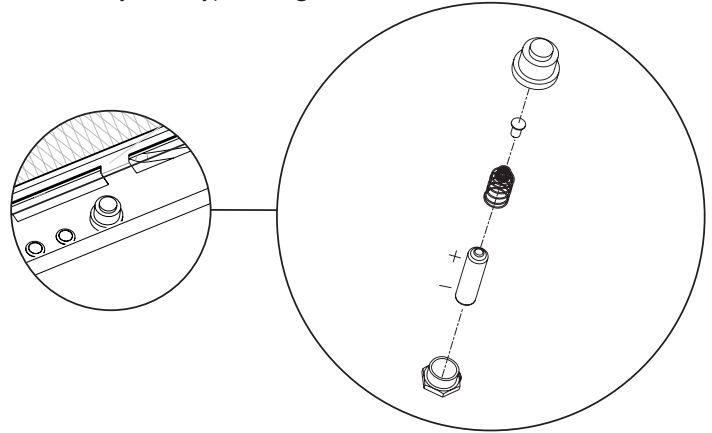

Figure 28
5. Unscrew the ignitor button and install the AA battery provided in the instruction envelope prior to closing the control door. (Note Battery Polarity) See **Figure 28**.